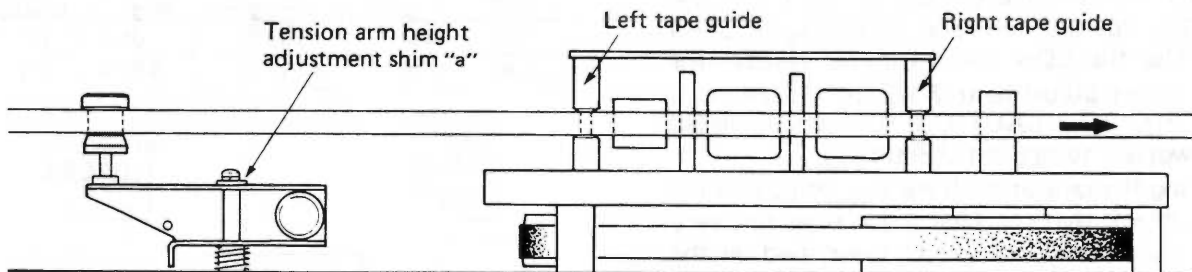

Fig. 2-9. Tape Path Adjustment
2. If curling at the left tape guide is evident, adjust the height of the guide by inserting a shim of appropriate thickness ( $\phi 5 \times \phi 8 \times 0.5^t$  or  $0.25^t$ ) into "a" of the left tension arm. The same procedures should be followed for the right tension arm height adjustment. See Fig. 2-9.